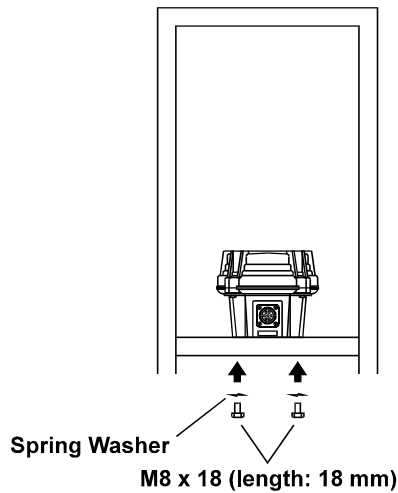

Figure 10
2. Attach the rotator to the tower's rotator mounting plate, using the supplied M8 x 18 bolts and spring washers. It is recommended that the tips of the bolts be lightly dipped in lubricating grease, to ease disassembly in the future (see Figure 10).